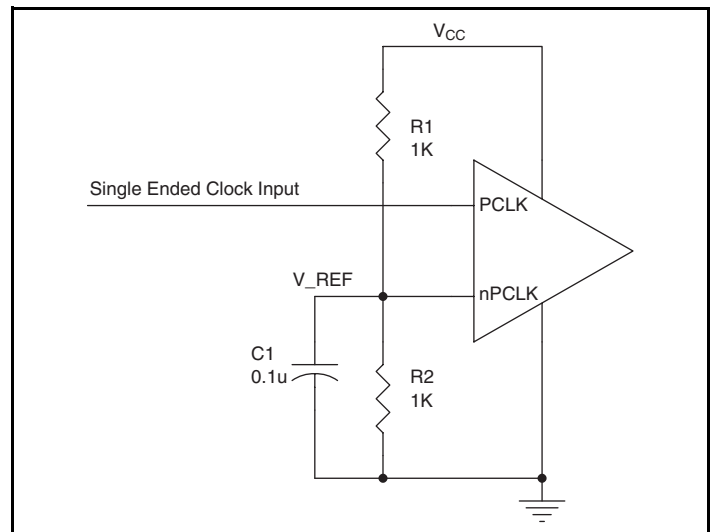

Figure 3. Single-Ended Signal Driving Differential Input
*Figure 3* shows how the differential input can be wired to accept single ended levels. The reference voltage  $V_{REF} = V_{CC}/2$  is generated by the bias resistors  $R1$ ,  $R2$  and  $C1$ . This bias circuit should be located as close as possible to the input pin. The ratio of  $R1$  and  $R2$  might need to be adjusted to position the  $V_{REF}$  in the center of the input voltage swing. For example, if the input clock swing is only  $2.5\text{V}$  and  $V_{CC} = 3.3\text{V}$ ,  $V_{REF}$  should be  $1.25\text{V}$  and  $R2/R1 = 0.609$ .